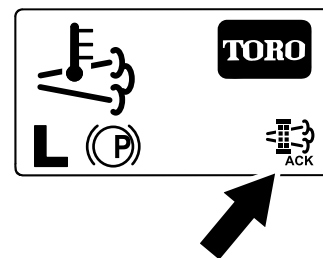

Figure 85
- The InfoCenter displays the home screen and the regeneration acknowledge icon (Figure 85) appears in the lower right corner of the screen as the regeneration processes.